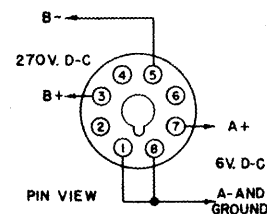

Figure 7. D-C Power Plug Connections
b. **D-C Operation.** - To operate the receiver from external batteries delivering 6-volts at 4.5 amperes and 270-volts at 145 milliamperes (or from a vibrator supply of like capacity), connect plug PL₂ as shown in figure 7 and insert it in socket SO₁ in place of the jumper plug used for a-c operation.